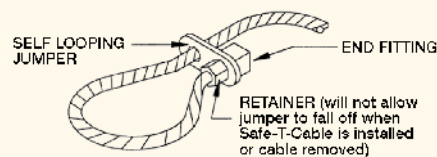

FIGURE 2: Self Looping Safe-T-Cable®
1.3.5. Installing Holes: Safe-T-Cable® must be installed through the holes intended for this purpose in the part being secured, or through the holes provided in a self looping device (Figure 2) secured to the Safe-T-Cable® by the Safe-T-Cable® manufacturer. In applications where holes are not provided for Safe-T-Cable® in the component to which it is attached the self looping Safe-T-Cable® may be used in a manner like, or similar to Figure 3.